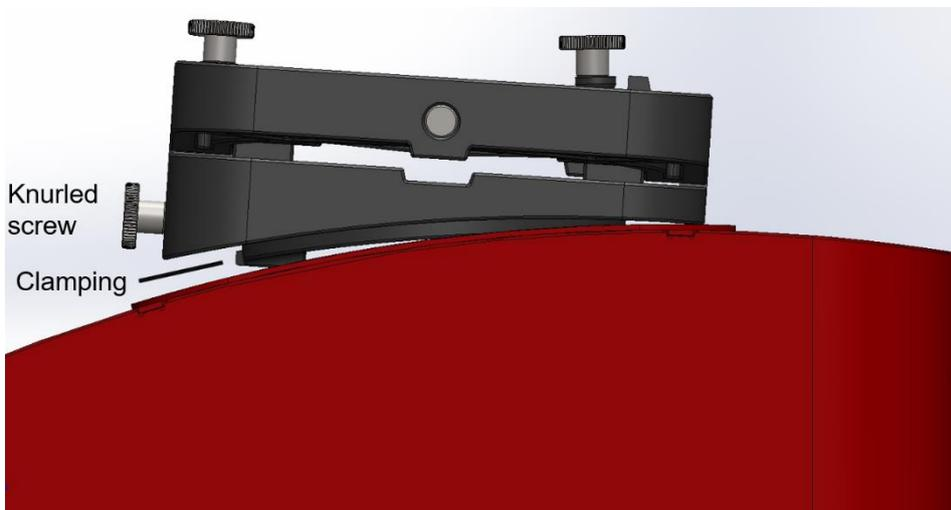

Figure 7 Fixing the angle adapter on the hood.
3. There is a knurled screw at the back of the angle adapter with which the angle adapter must be securely clamped to the hood by turning it clockwise (see Figure 7).